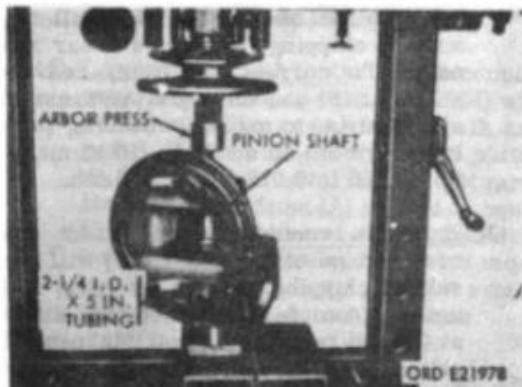

*Figure 97. Bevel pinion bearing preload test*
b. Bevel Pinion Bearing Preload Test (Fig. 97).
- (1) Install through shaft assembly temporarily to conduct bearing preload test. Refer to f below for installation procedures.
- (2) Wrap cable of preload tester 6670-347-5922 around through shaft.
- (3) Pull and note reading on scale while shaft is rotating. If original bearing cones and cups are used, reading should be between 4 to 8 inch-pounds. If new bearing cones and cups are used, reading should be between 12 to 18 inch-pounds. An equal amount of shims must be added under through-shaft bearing covers to decrease preload or removed to increase preload.